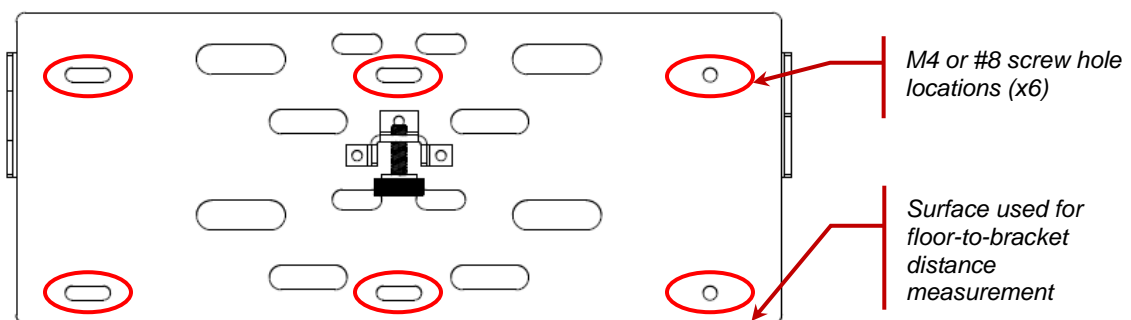

Figure 7 Mounting Bracket with Wall Mounting Holes Highlighted
1. Position the bottom of the mounting bracket at least 2.3m (90.5") from the floor (remember the minimum ceiling height is 2.7m or 9'). Refer to Figure 7.